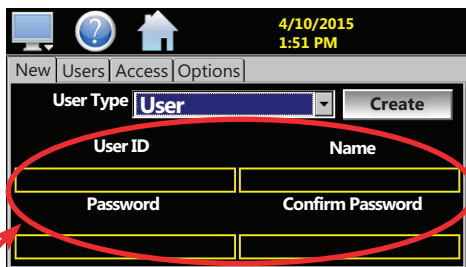

Fig. 25: Enter User ID and Password Info
13. Press the USER ID, NAME, and PASSWORD boxes to bring up the keyboard for each category and enter the relevant information. After entering each category, hit DONE in the lower right-hand corner on the keyboard. When finished, press CREATE (Fig. 25).